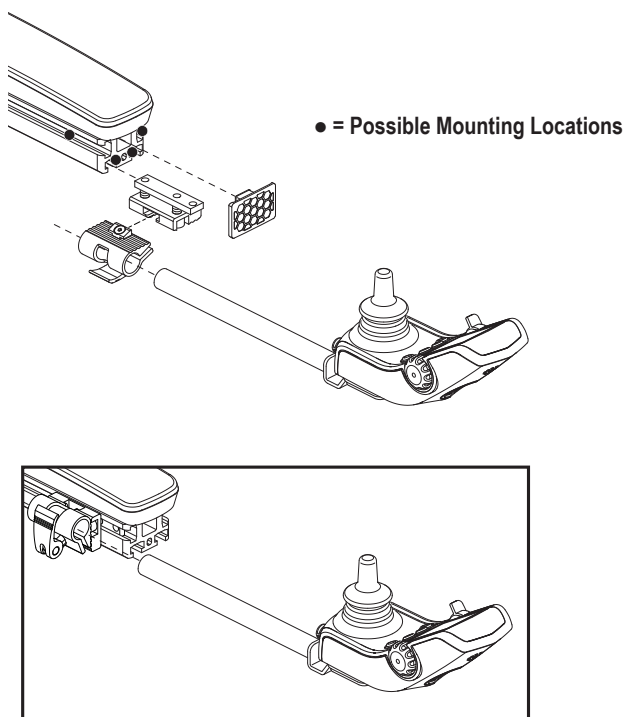

Figure 17. Controller Position (Standard Mounting Block Shown)
3. Loosen the mounting screws in the controller mounting block. **See figure 17.**